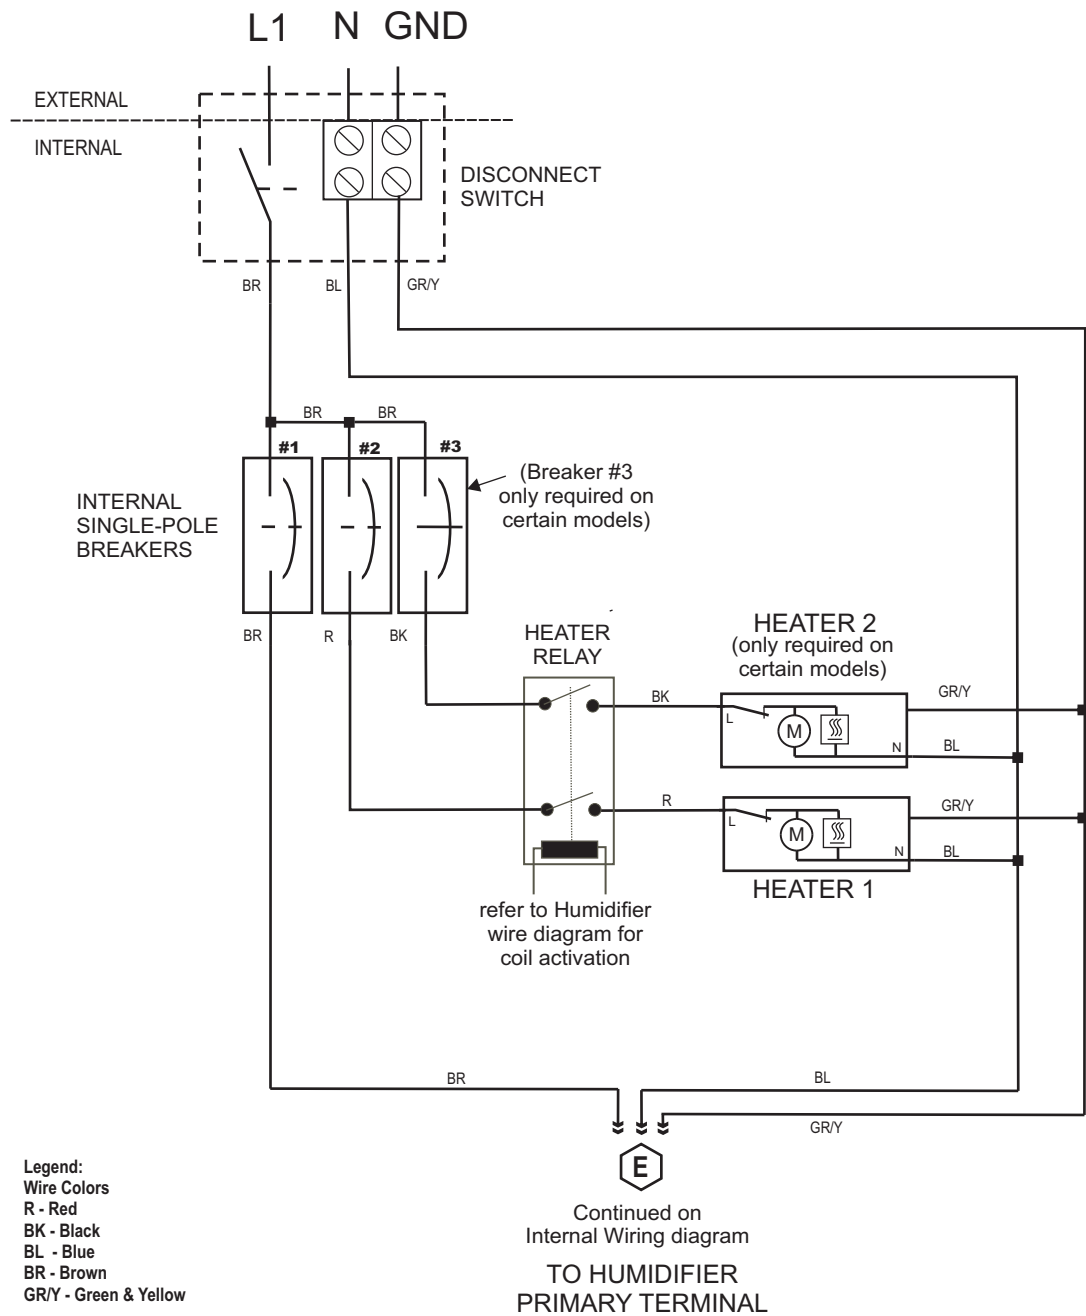

Fig. 19: Supplementary wiring diagram 120V/1ph Voltage Supply for Condair GS 23 OC - GS 260 OC (reference document 2604703, revision A)
- Route the power cable via a cable gland into the electrical isolator and connect it to the corresponding terminals according to the appropriate wiring diagrams (see Fig. 19 on page 53).
Fig. 19 shows the supplementary wiring diagram for the 230V/1ph voltage supply for the Condair GS 23 OC - GS 260 OC.
- Power supply connected via the electrical isolator on the humidifier according to the appropriate wiring diagram (see Fig. 19 on page 53)?